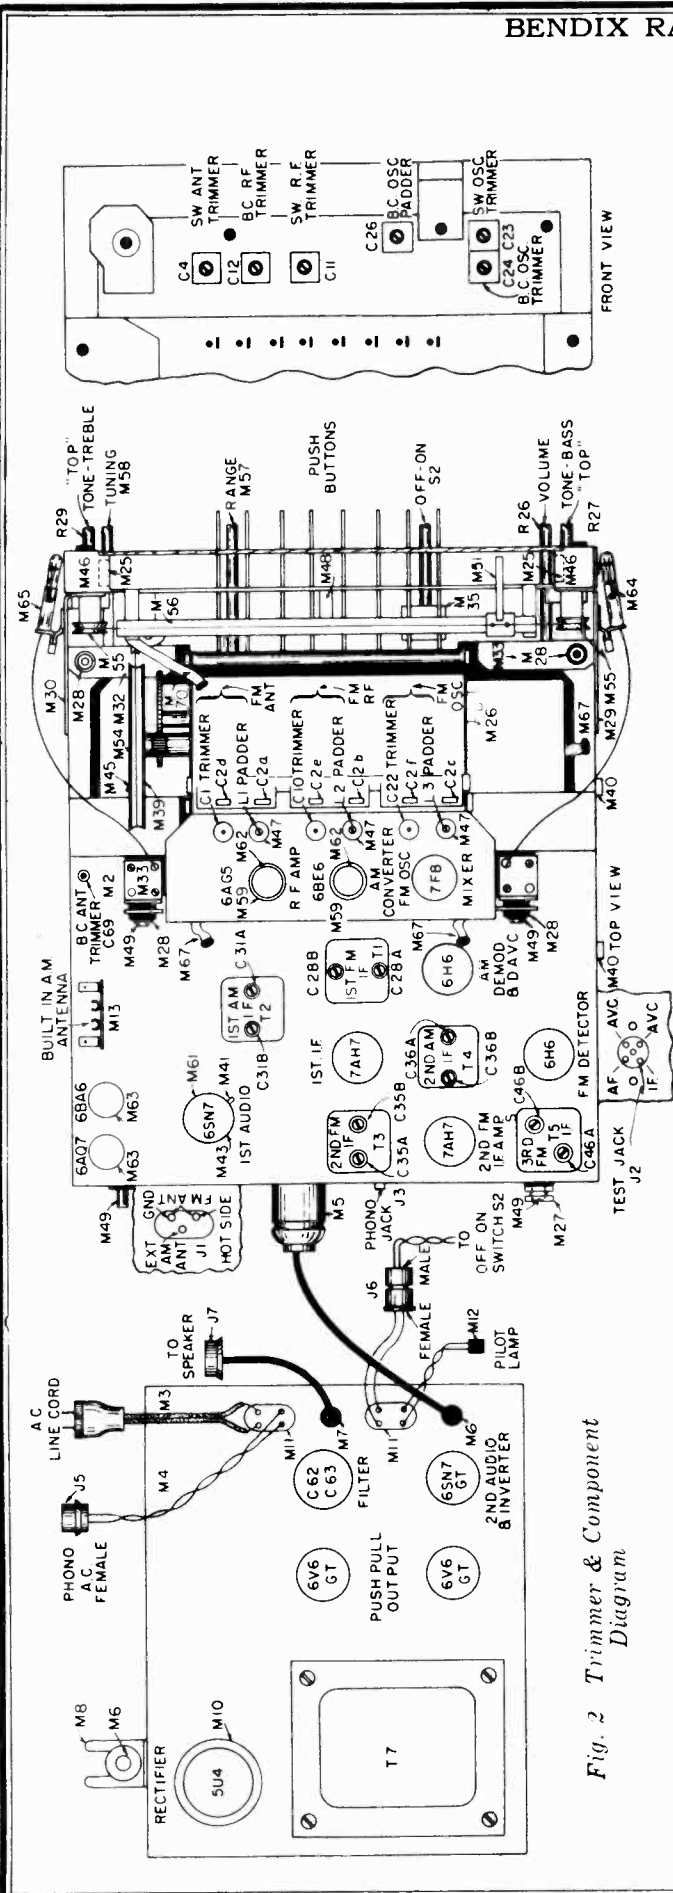

Fig. 2 Trimmer & Component Diagram
The mechanical type of push-button tuning used with this receiver makes possible the selection of any one of eight pre-selected stations. Any push-button may be adjusted to select any station in the three tuning bands. However, more accurate tuning of the SW and FM stations will be obtained if the lower four buttons E, F, G and H, Figures 2 & 3, are used for stations within these bands.
1. Short #5 terminal on gang (C2-F) to chassis. See Fig. 2.
2. Set signal generator to 455 KC, CW or AM, and connect to #3 gang terminal (C2-E) through a .01 mfd capacitor. See Fig. 2.
1. Insert special FM test circuit plug, detailed below, in test circuit jack J2 located on left side of radio chassis. See Fig. 2 & 7.
3. Connect signal generator to #4 (C2-B) gang terminal through a .01 mfd capacitor and short #6 gang terminal (C2-C) to chassis. See Fig. 2.
1. Connect V.T.V.M. ground or "minus" lead to AVC pin of test circuit jack (J2) located on left side of radio chassis. (See Fig. 2).
2. Connect signal generator to #4 (C2-B) gang terminal through a .01 mfd capacitor and short #6 gang terminal (C2-C) to chassis. See Fig. 2 for gang terminal numbers.
6. Connect signal generator to #4 (C2B) gang terminal (See Fig. 2) through a .01 mfd capacitor and short #6 gang terminal (C2C) to chassis.
16. It is possible to visually align the ratio detector transformer (C46A & C46B) after the oscillator, RF and antenna circuits, have been aligned. In some cases this may be desirable, especially if the output of the FM signal generator is rather low at 10.7 MC. If this method is followed, align the IF channel up through C46A (ratio detector primary) and the oscillator, RF and antenna circuits as directed above, using a CW or AM signal and the V.T.V.M. connected across the ratio detector load resistor. (Point B and IF of the test circuit jack as shown in Fig. 2). Then, with the oscilloscope and V.T.V.M. connected as directed in step 5 above and the signal generator still connected to the FM antenna input through the FM dummy antenna, apply an FM signal of any frequency between 90 and 106 MC and adjust the receiver tuning control to center the resulting "S" curve on the oscilloscope screen. The ratio detector transformer (C46A & C46B) may now be adjusted in exactly the same manner as directed in step 8, except that it may be advisable to adjust the output of the signal generator to produce approximately 10 volts on the V.T.V.M. instead of 8 volts.